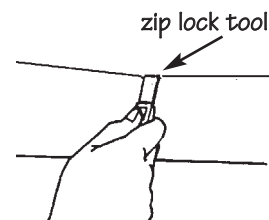

Figure 79.
- Use the unlocking tool again to zip the upper panel over the lock on the new panel (Fig. 79).